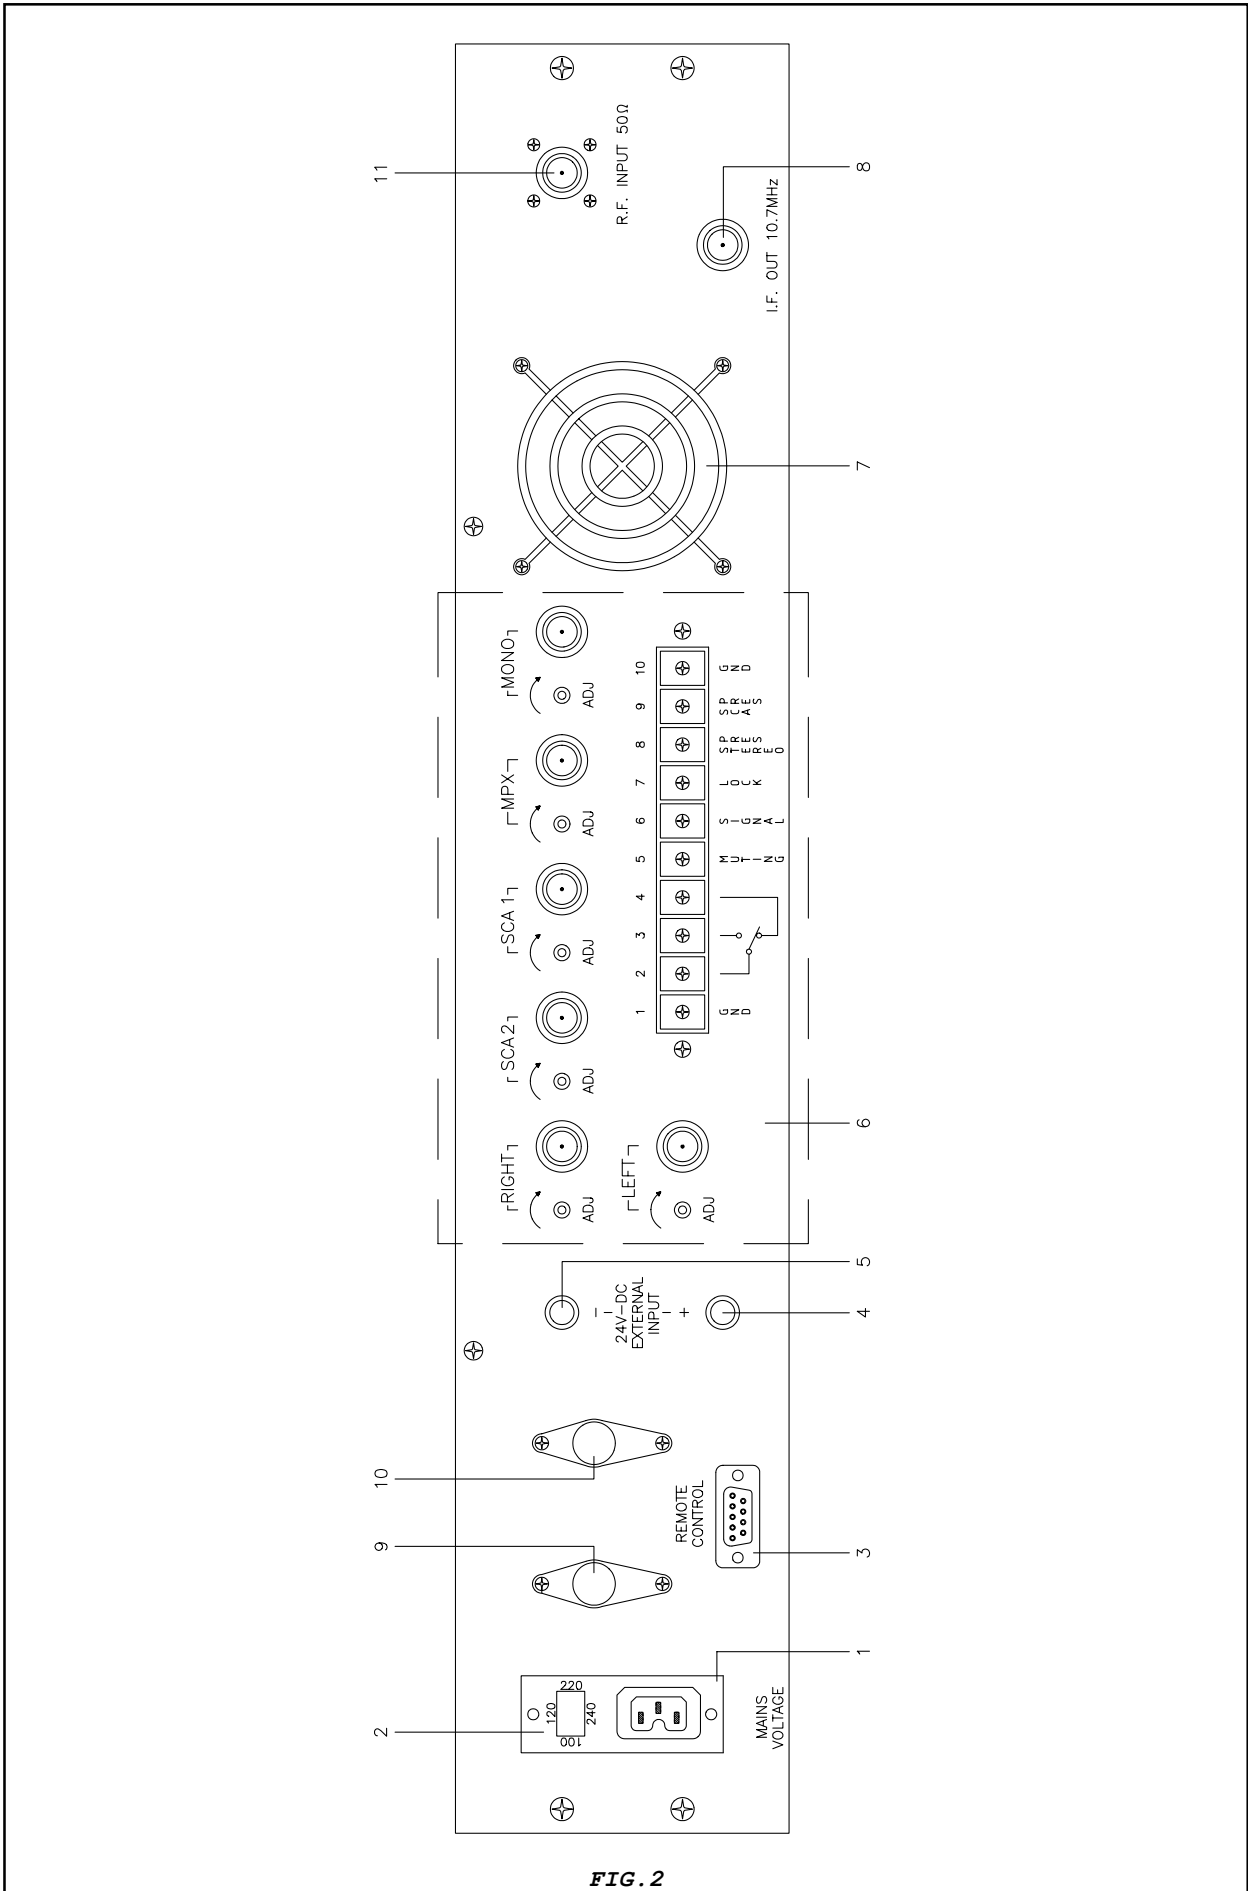

FIG. 2
REAR PANEL VIEW DESCRIPTION (Fig.2)
First of all select the correct supply voltage using the selector situated on the rear panel; use a screwdriver to raise the cover (2 Fig.2) on which are written the various voltages, rotate it until the arrow points to the correct voltage and re-insert it.
- 2) Ensure that the antenna is correctly fitted to the R.F. input (11 Fig.2) situated on the receiver's rear panel.
- 4) Connect power to the unit via the VDE socket (1 Fig.2).